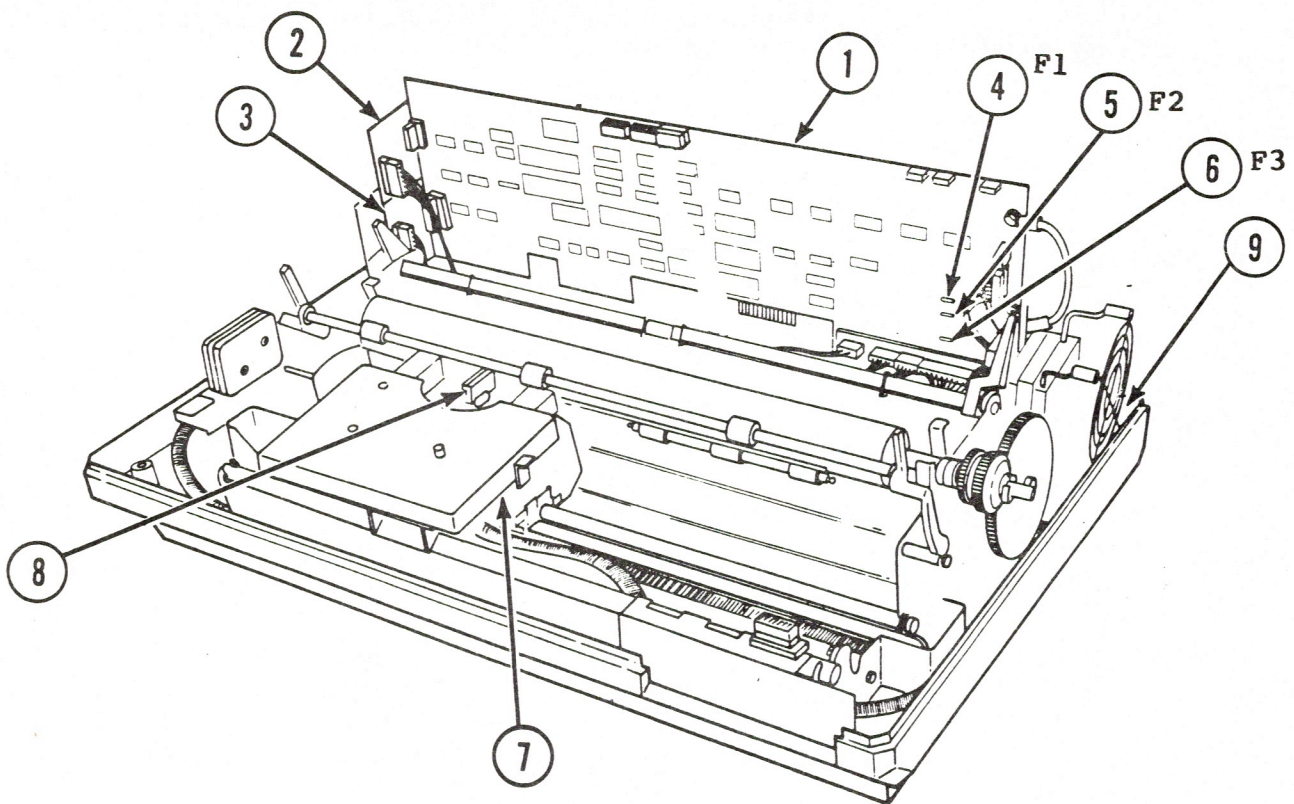

FIGURE 1
Main PCB Pico Fuses	- F1, 4 amp (Figure 1, #4) - F2, 2 amp (Figure 1, #5) - F3, 5 amp (Figure 1, #6)
Mechanical Assembly	Figure 1: everything except printed circuit boards and outer case
Carriage Assembly	Figure 1, #7
Print Hammer Assembly	Figure 1, #8
Main PCB	Figure 1, #1
Carriage Motor encoder PCB (replaced with Carriage Motor)	Figure 1, #2
Printwheel encoder PCB (replaced with Carriage Assembly)	Figure 1, #3
- \*4. Disconnect the ground wire from the upper right side of the PCB (see Figure 1, #3).
- \*6. There are two mounting holes midway between the top and bottom of the board. Lift the board halfway up and install it on the fasteners using these mid-point holes. (See Figure 1, #1.) If you have trouble raising the PCB, try to free it by pushing with your finger through the RS232 slot on the lower left of the rear panel.
- \*7. Unplug the two encoder PCBs from the extreme left side of the main PCB. (See Figure 1, #2.)
- \*8. Number the cable connectors on the right side of the PCB with the felt pen, according to the P-numbers on Figure 1, so that you will be able to reinstall them correctly.